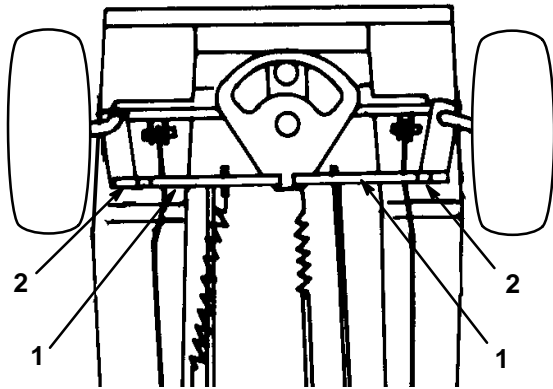

Figure 25
Maintain toe-in of the front wheels as specified. If uneven tire wear, lawn scuffing or hard steering develop adjustment may be required. Check the toe-in after every 100 operating hours or yearly, whichever occurs first (Fig. 25).
3. Measure, between the wheels, at spindle level, in the front and rear of the wheels (Fig. 25).
1. To align front wheels, loosen jam nut and turn tie rod end (there is only one adjustable tie rod) until center line distance across front of wheels (d') is .06 inch (1.5 mm) to .25 inch (6.3 mm) less than center line distance across rear of front wheels (d'') (Fig. 25 & 26).